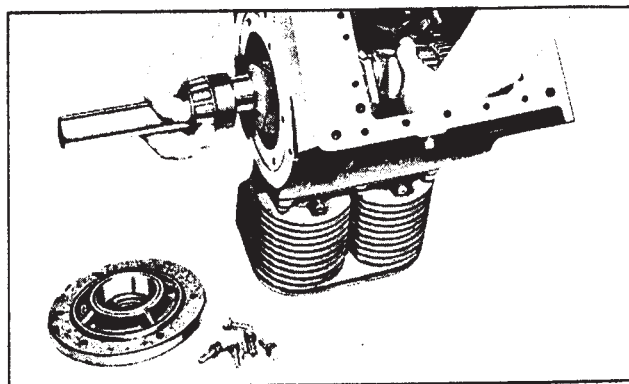

Figure 10-15. Crankshaft Removal
a. To remove the crankshaft, first remove the six capscrews in the main bearing plate at the take-off end of the engine. The plate can then be pried off and the crankshaft removed from that end of crankcase. (See figure 10-15.)